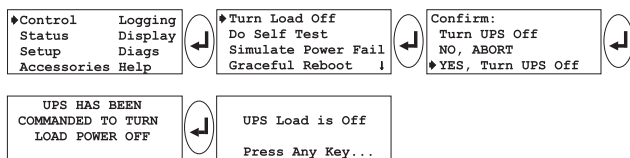

Fig 5-26 Power Down the Load Sequence
- ❑ 12. Power down the load equipment by following the screen sequence in figure 5-26.